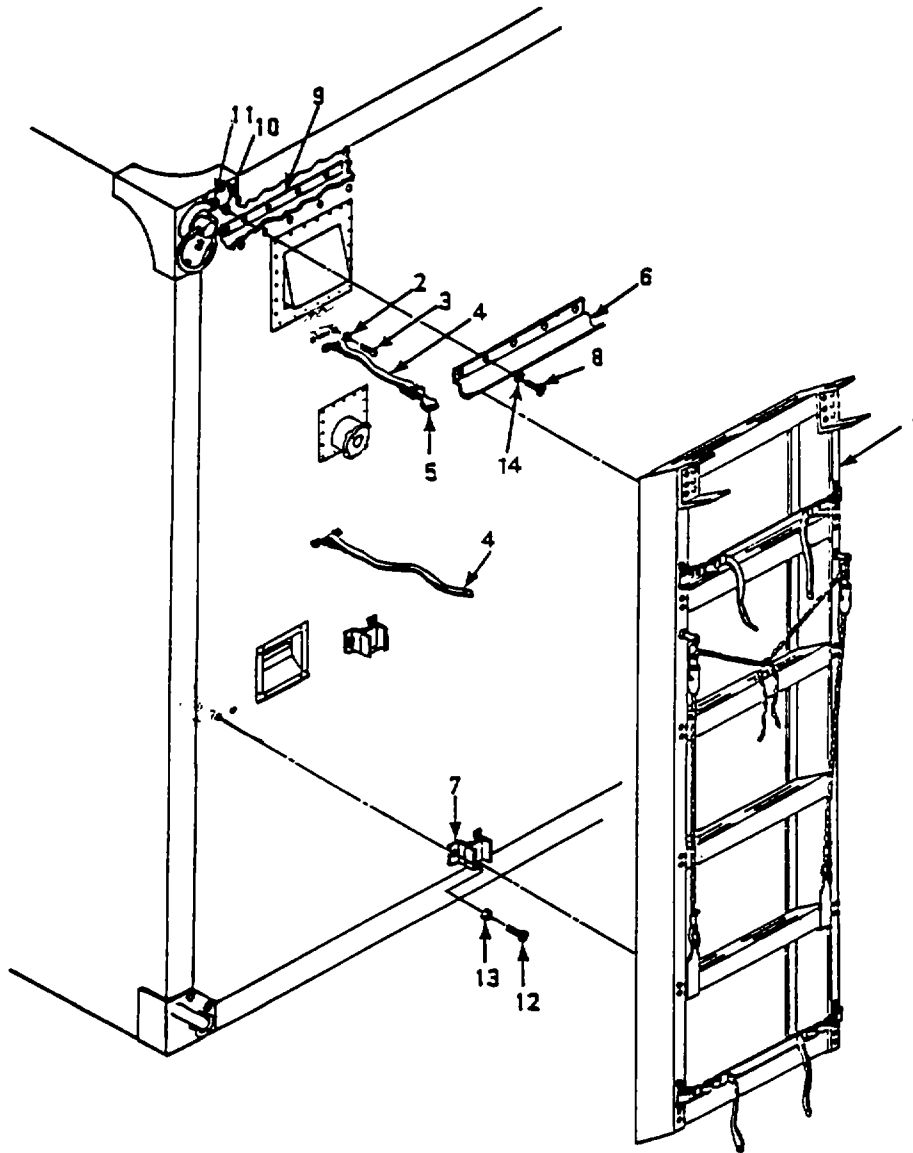

Figure 4-23. Ladder Assembly
a. Inspect. (See Figure 4-23.)
- (1) Check shelter rear ladder assembly for security and completeness.
- (2) Inspect ladder (1) for dents and cracks.
- (3) Check ladder assembly fastener loops (2) and screws (3) for security.
- (4) Check ladder assembly retaining strap (4) and buckle (5) for security and condition.
- (5) Check ladder assembly upper mounting bracket (6) for cracks, rust, corrosion, security of attachments, and sealant condition.
- (6) Check ladder assembly retainer brackets (7) for cracks, rust, corrosion, security of attachment, and sealant condition.
b. Replace. (See Figure 4-23.)
- (1) Unlatch ladder assembly retaining strap (4).
- (2) Remove ladder (1).
- (3) Remove screws (3) and retaining strap fastener loops (2).
- (4) Remove retaining strap (4).
- (5) Remove upper mounting bracket bolts (8), backing plate (9), lockwashers (10), and nuts (11).
- (6) Remove upper mounting bracket (6).
4-27. LADDER ASSEMBLY. - Continuedb. Replace. - Continued (See Figure 4-23.)
- b. Replace. (See Figure 4-23.) - Continued
- c. Repair. (See Figure 4-23.)